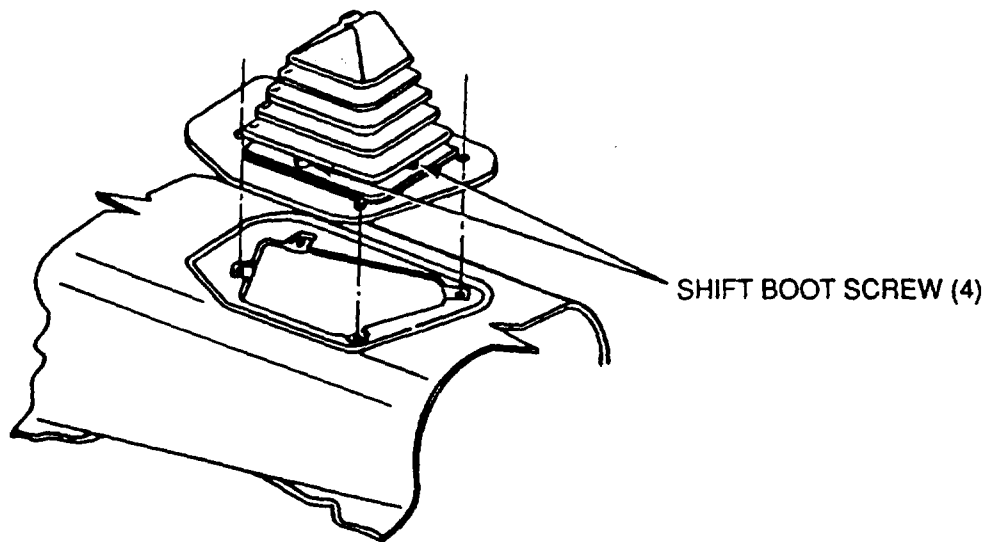

FIGURE 1
8. Remove the four shift lever boot-to-floor pan attaching screws. (See Figure 1).